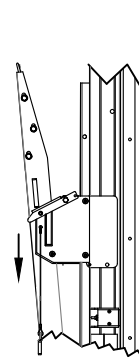

Figure 16: Step 9.
- Step 9. While platform is in vertical position, lower to the desired level (Figure 16).